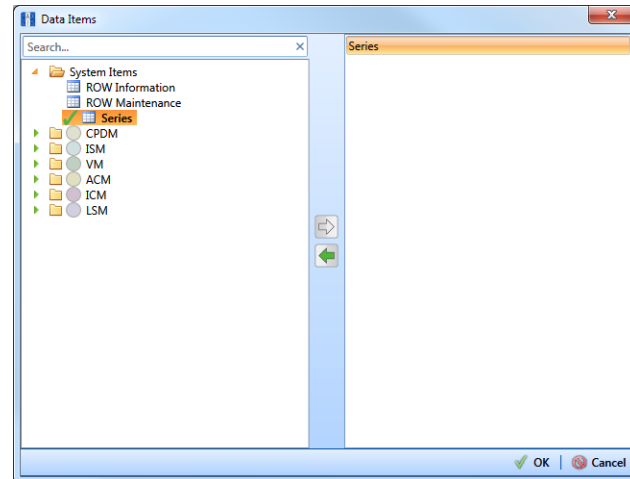

Figure 10-50. Data Items
- 7 Click **Add Data Item** to open the *Data Items* window and then complete the following steps (Figure 10-50, page 476):